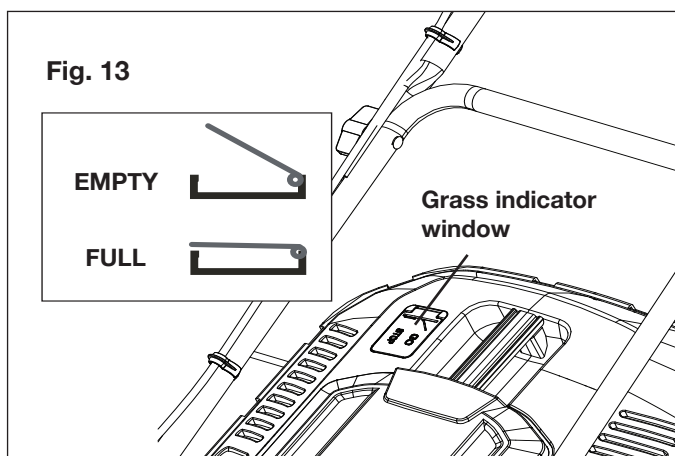

Fig. 13
- If the grass collection bag is empty or is not completely full with grass, the grass indicator window will remain open (due to the flow of air) or will flutter open and close as the grass accumulates in the bag (Fig. 13).
- When the grass bag reaches its maximum capacity, the grass indicator window will remain closed (due to the restricted air flow). This signals that it is time to empty the bag (Fig. 13).